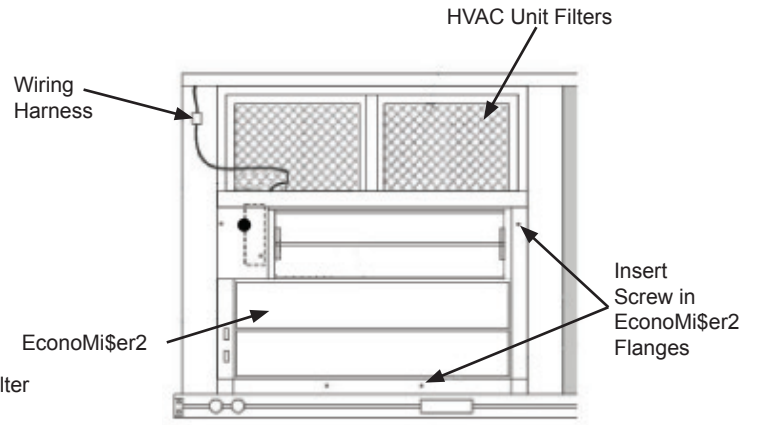
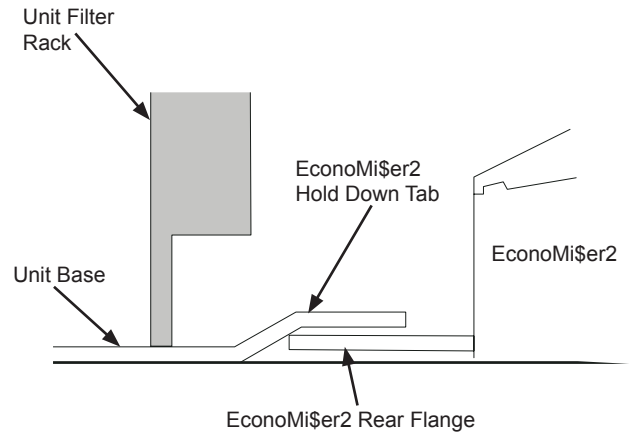

Fig. 6 - EconoMiSer2 Installed in HVAC Unit (Small Cabinet Economizer Shown)
Fig. 7 - Rear EconoMiSer2 Flange Installation (Small and Large Cabinet)
6. Slide the EconoMiSer2 assembly into the rooftop unit. (See Fig. 6). On small and large cabinets be sure to engage the rear EconoMiSer2 flange under the tabs in the return-air opening of the unit base. (See Fig. 7)
7. Secure the EconoMiSer2 to unit along side and bottom flanges using the screws provided. (See Fig. 6)